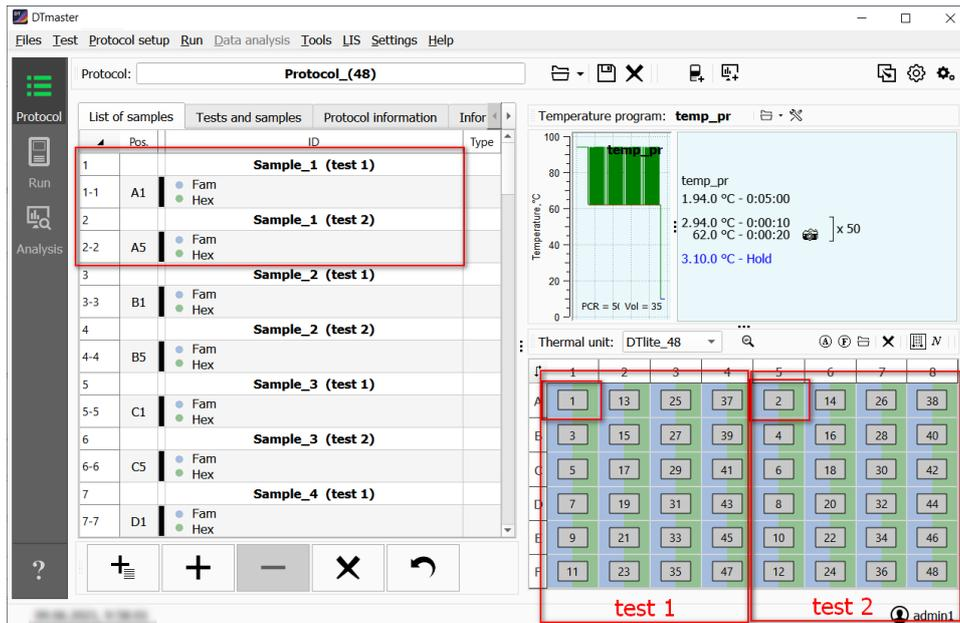

Figure 36 – Grouping tubes by test
2. Select the Test layout option from the context menu in the **Thermal unit** workspace (fig. 36).